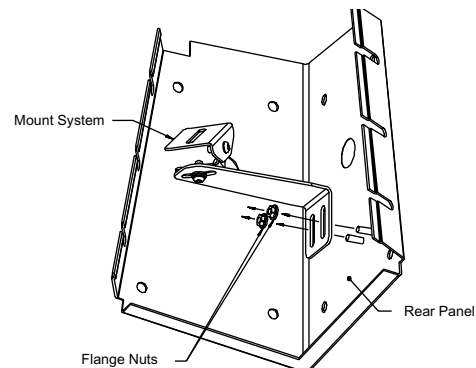

Figure 4: Removing the Mount System
4. Unscrew the 2 flange nuts and remove the camera mounting system from the rear panel. **See Figure 4.**